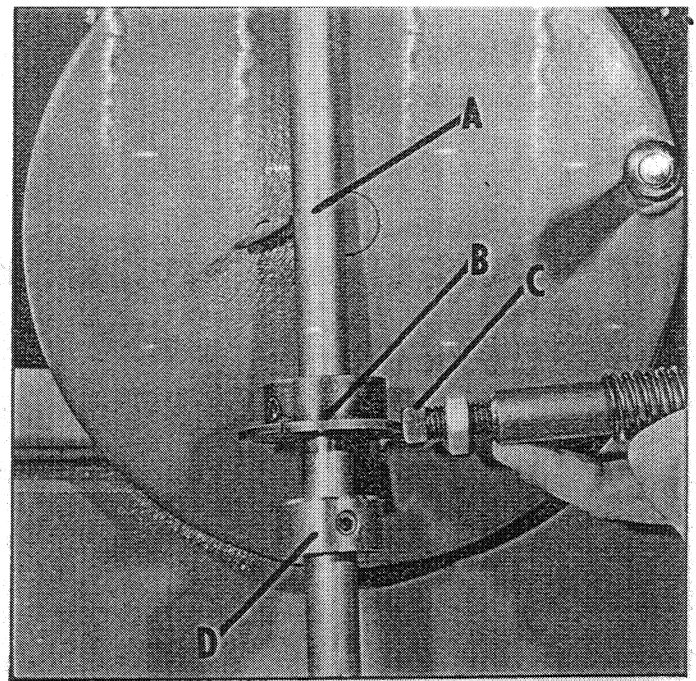

Fig. 4
6. Position cam shaft (A) Fig. 4, so cams (B) line up with square head screws (C). Then position the two collars (D) against the inside of the front and rear brackets and tighten the set screws in the collars to hold the cam shaft in place.